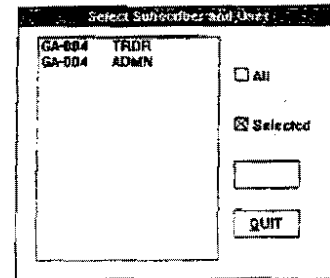

Figure 12.26 Subscriber/User Dialog Box
3. Choose **OK**. The processing window displays messages relating to initial processing of subscriber/user records. If only one subscriber/user logged into the selected Service during the trading session, the tradelog is processed. (Continue with step 4.) If multiple subscriber/user combinations logged in, the Subscriber/User dialog box shown in Figure 12.26 is displayed.